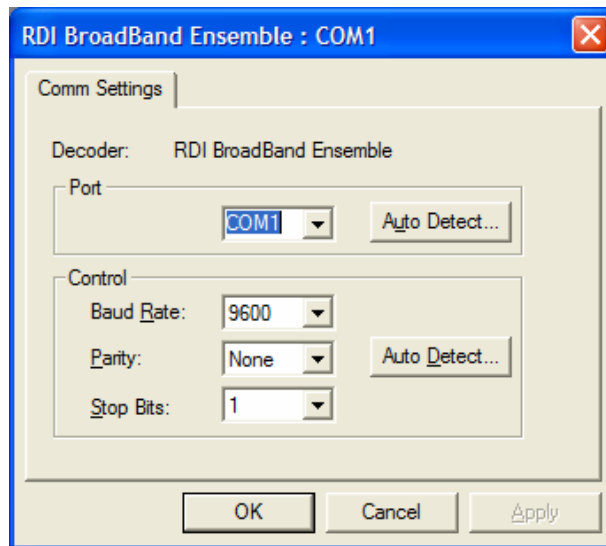

Figure 4. Communication Menu
- Select the COM port that the ADCP is connected to (see Figure 4). If you are unsure of the setting, use **Auto Detect**.